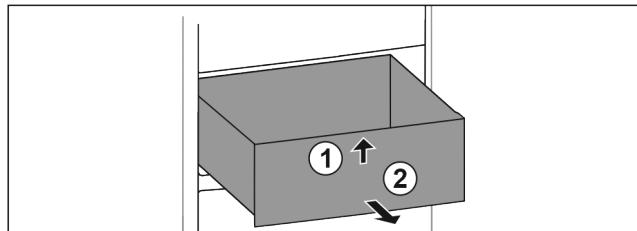

Fig. 59
- Lift up drawer at the front. Fig. 59 (1)
- Remove drawer to the front. Fig. 59 (2)